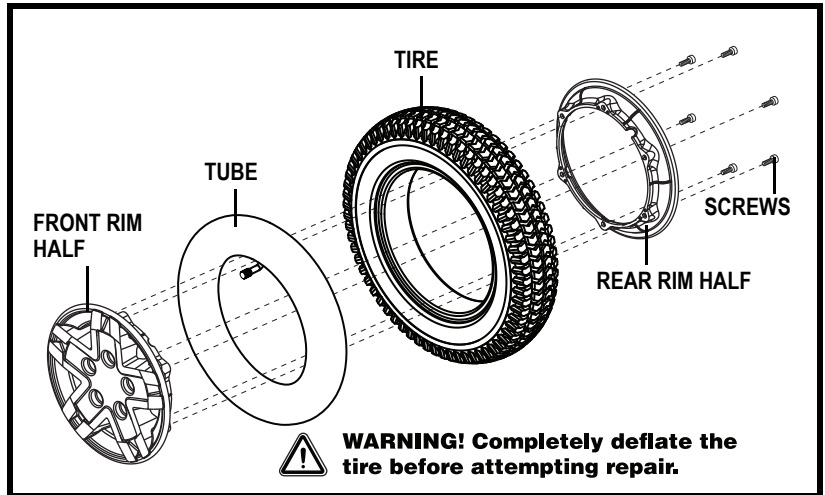

Figure 21. Jazzy 623 Drive Wheel Disassembled
6. Remove the screws and separate the front and rear rim. See figure 21.
10. Reinstall the five (5) lug nuts onto the wheel hub and tighten.